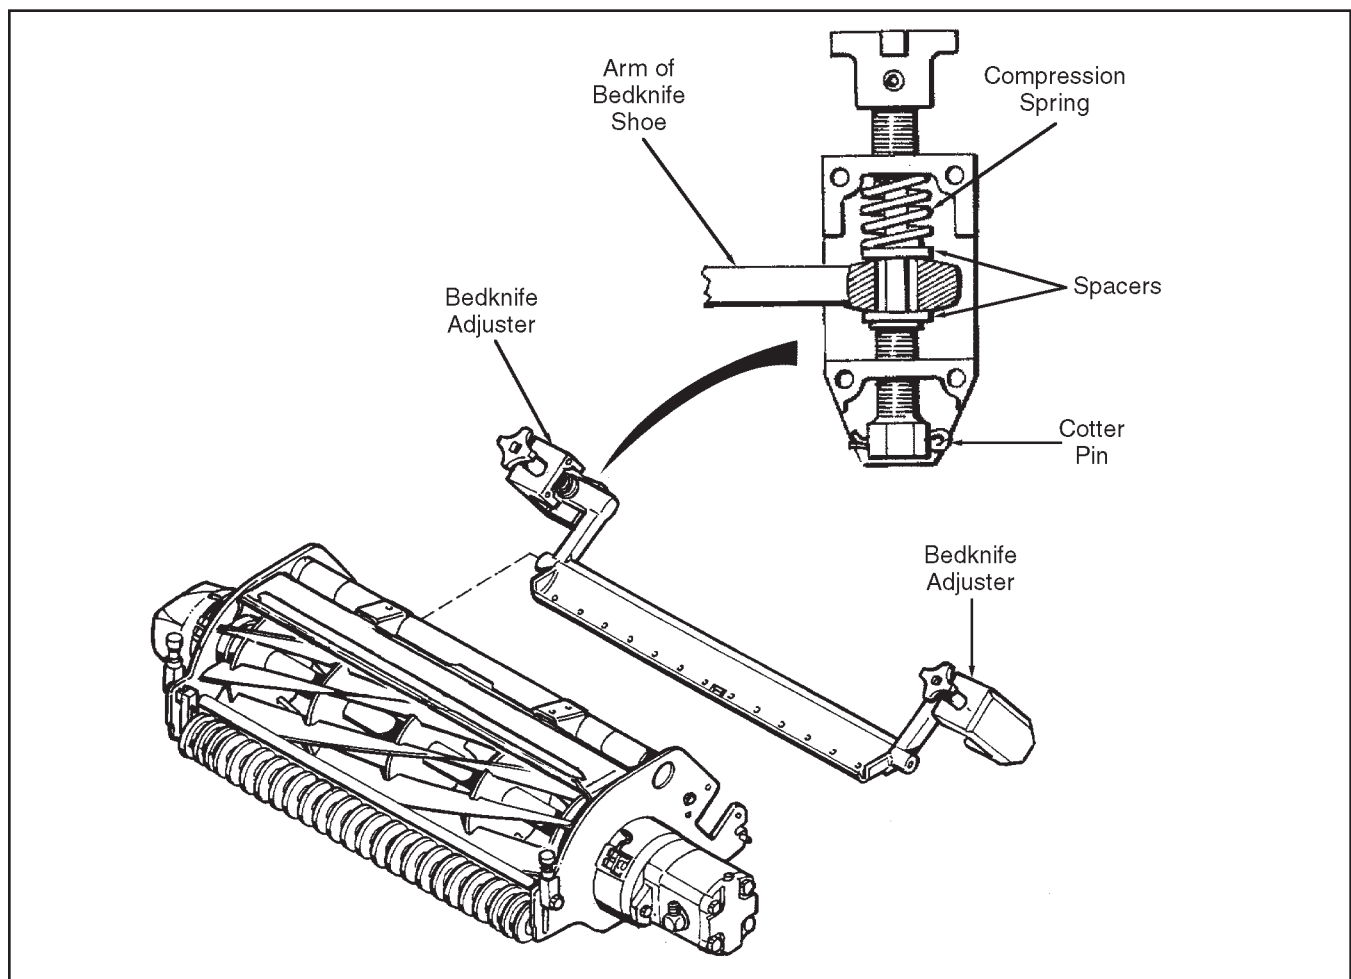

Figure 12G-3. Bedknife Adjuster Removal and Installation
2. Refer to Figure 12G-4 (Sheet 1 of 2). If not previously removed, remove the throw shield and deflector.